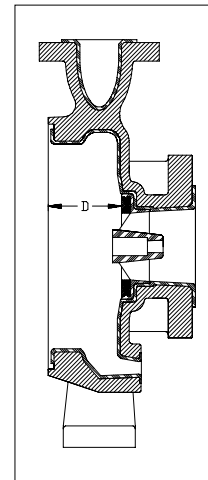

Fig. A2-3
After assembling the shaft support, measure the depth between the thrust ring in the shaft support and the end of casing. Refer to Fig.A2-3 and the table below for the correct dimension. Measurements should be taken on at least (4) locations to ensure that the thrust ring is parallel with the face of the casing.